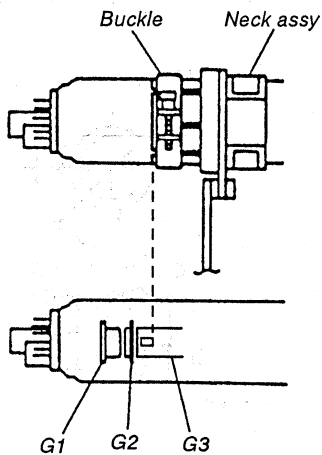

Fig. 3-2
3. Secure the neck assembly to the position shown in the figure (Fig. 3-2).